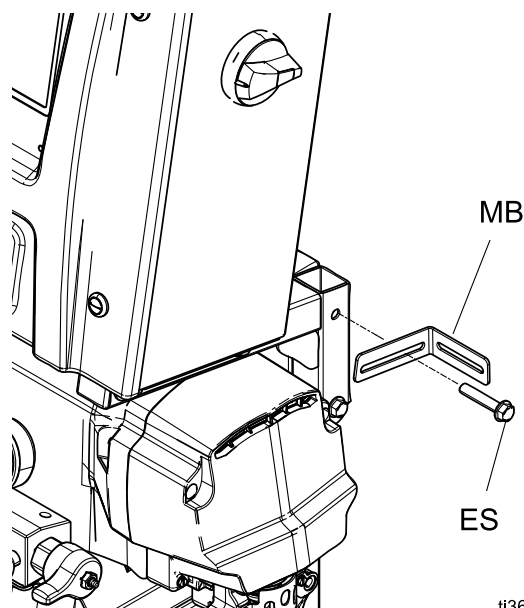

FIG. 4: Install Wall Mounting Brackets
1. Remove the enclosure pivot arm screws (ES).
2. Lift the electrical enclosures (EE).
3. Place the left and right wall mounting brackets (MB) as shown in Fig 4. Insert the enclosure pivot arm screws (ES) through the brackets (MB) and tighten to secure the enclosure.